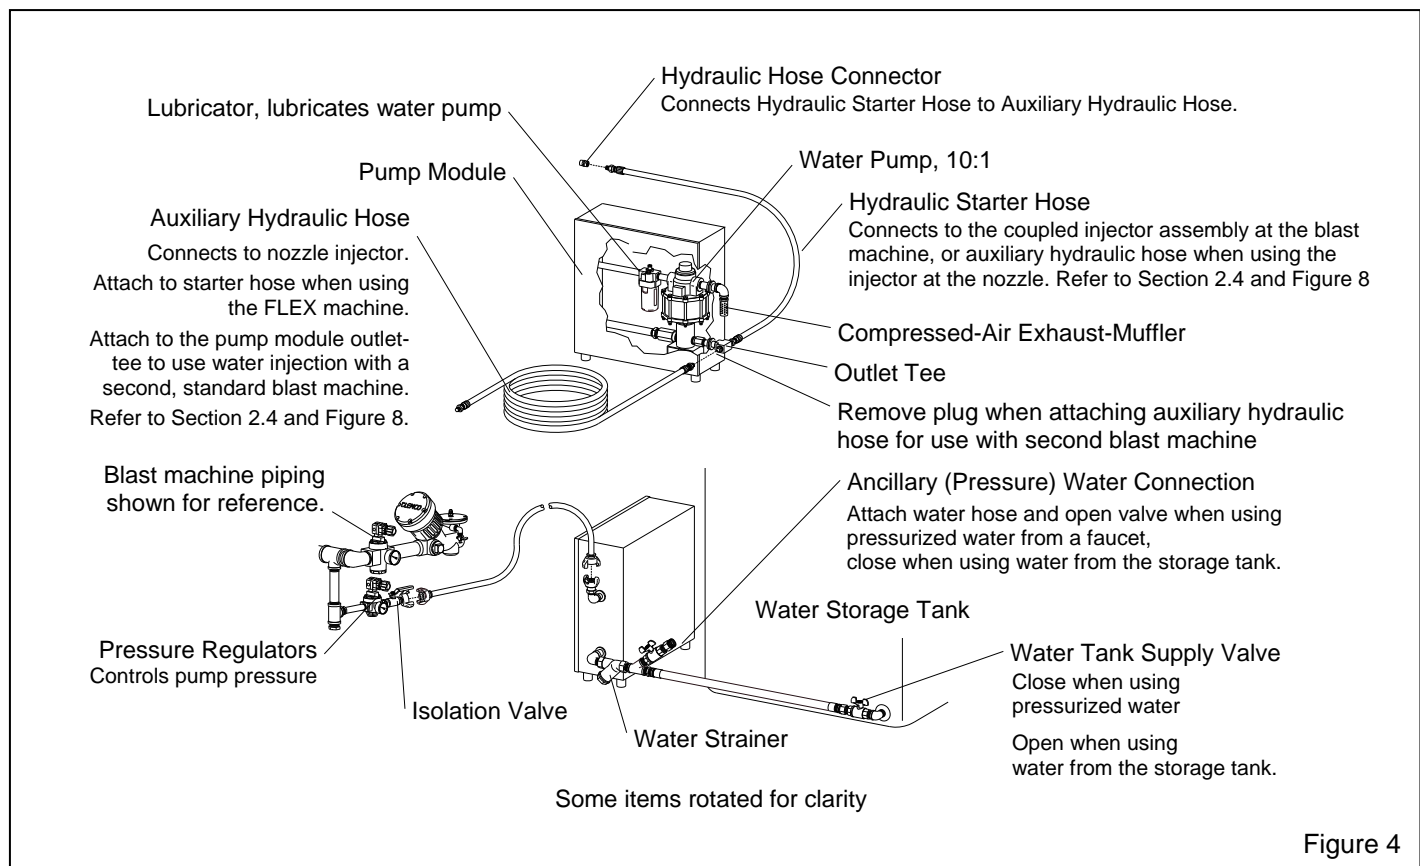

Figure 4
1.6.3 Injector pump module Components are shown in Figure 4
1.6.3.4 The water outlet tee is for attaching the hydraulic starter hose; this hose connects to the coupled injector assembly when using the injector at the blast machine, as shown in Figure 4 and Figure 8. The tee also has a plug on the unused leg; when using the nozzle injector with a separate (additional) blast machine, remove the plug and attach the hydraulic hose. Refer to Section 2.4.